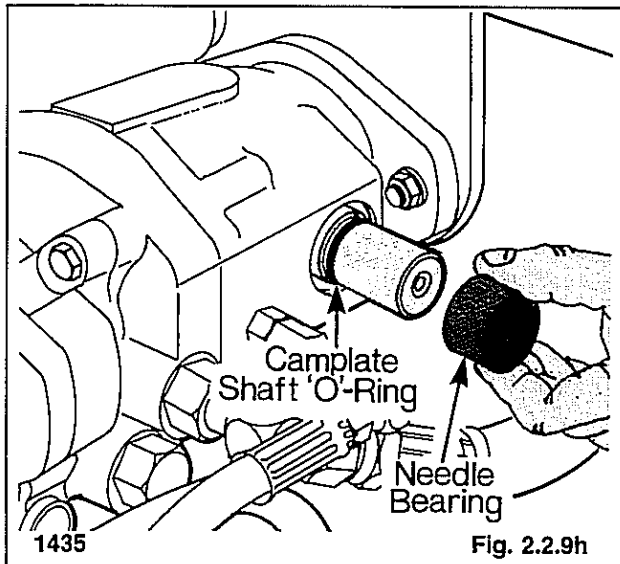

Fig. 2.2.9h
10. Remove the needle bearing from the camplate shaft (fig. 2.2.9h).
11. Remove the camplate shaft O-ring (fig. 2.2.9h).